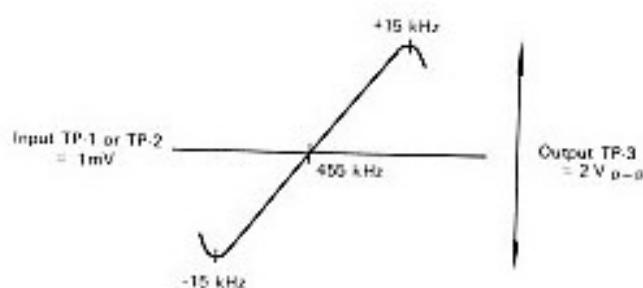

FIGURE 7
- Step 2: Adjust T1 and T2 of IF amplifier so that 455 kHz marker is in the center of the discriminator curve as shown in Fig. 7.